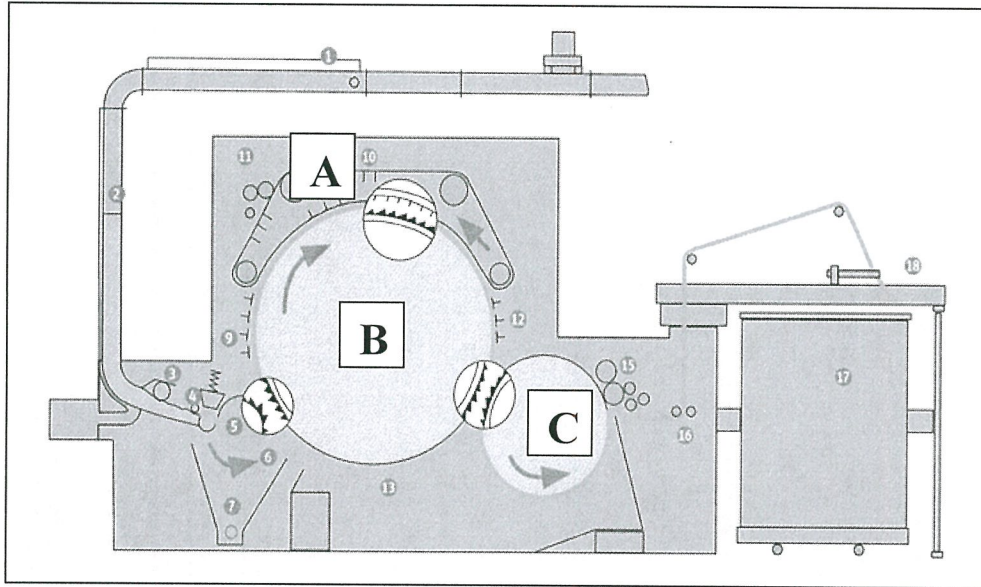

Figure Q2 (d)
- (a) The ability to turn fibres into yarn must consider several fibre characteristics. Explain **FOUR (4)** of the main textile fibre characteristics. (8 marks)
- (d) Fibres must be prepared before spinning process can be performed. List **TWO (2)** of the reasons. (2 marks)
- (a) As a textile engineering technologist, recommend the processes where blending of TC can be made. Discover the benefit of producing TC. List **TWO (2)** factors affecting the properties of blended yarns. (6 marks)
- (c) Sketch **THREE (3)** opening devices used in blowroom line and describe **THREE (3)** factors affecting the intensity of the opening. (6 marks)
- (d) Name part A, B and C in **Figure Q2 (d)**. Explain the function of each part. (6 marks)